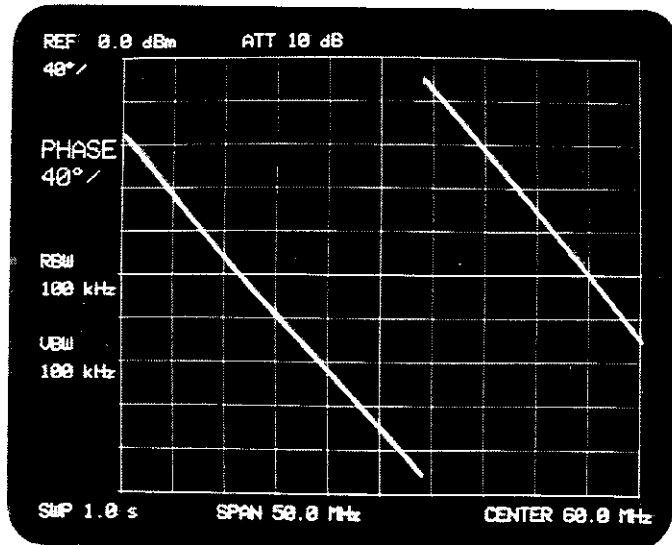

Fig. 6-1 Phase Rotation
- (6) If phase rotation is observed in the measurement system, as shown in Figure 6-1, press the DELAY OFFSET key to enable changing the electrical length. Using the DATA knob or DATA step keys (the DATA keyboard can not be used), adjust the electrical length until a flat phase response is obtained. (See Figure 6-2.)